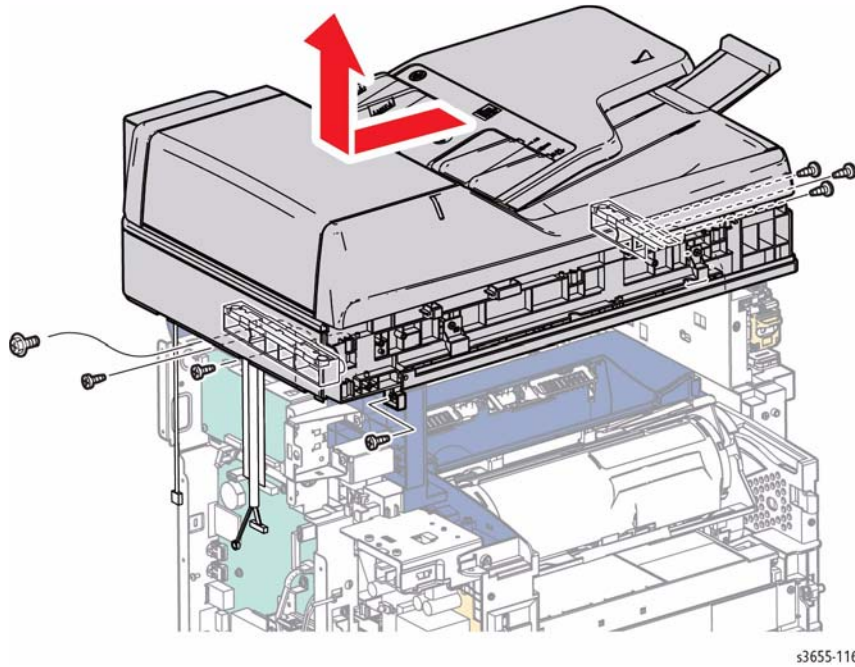

Figure 4 Remove the IIT Assembly
NOTE: Remove the 7 screws shown in Figure 4.
20. Refer to Figure 4 to locate and remove a total of 7 screws: